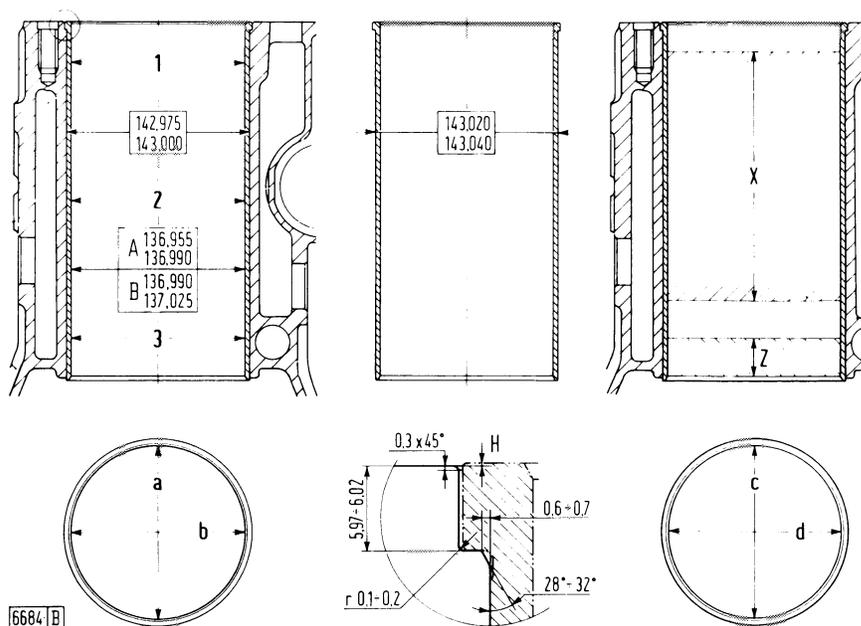

Fig. 7 - Sleeve and block dimensions and inspection data.
The finish machined cylinder sleeves are heat-treated before being press-fitted into the block. After press fitting, sleeves are classified into grades A and B (see figure 7) and require no further processing. The grade identification letters are stamped in the top of the block adjacent to the sleeves.
- Check the sleeve bore over the working length (X, fig. 7) swept by the piston rings.
- With the sleeve fully seated, check the sleeve bore by placing a suitable dial gauge set to zero on planes (**a** and **b**, fig. 7), subsequently repeating the readings in three points (1, 2 and 3) at different heights.
- Where necessary, stamp the grade identification letters to which pistons must be matched (see para. 4.3) to the cylinder block (see fig. 7).
After opening out the block recut the lead-in chamfer according to the dimensions given in fig 7.
If the block top needs grinding (which should be done with the sleeves removed) also restore the original depth of counterbore and lead-in chamfer according to the dimensions shown in fig. 7 to obtain fitted sleeve dimension (H) as prescribed.